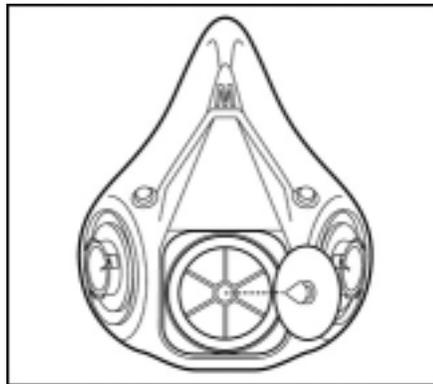

Fig. 17
2. Grasp valve and pull valve stem out from valve seat. (Fig.17)